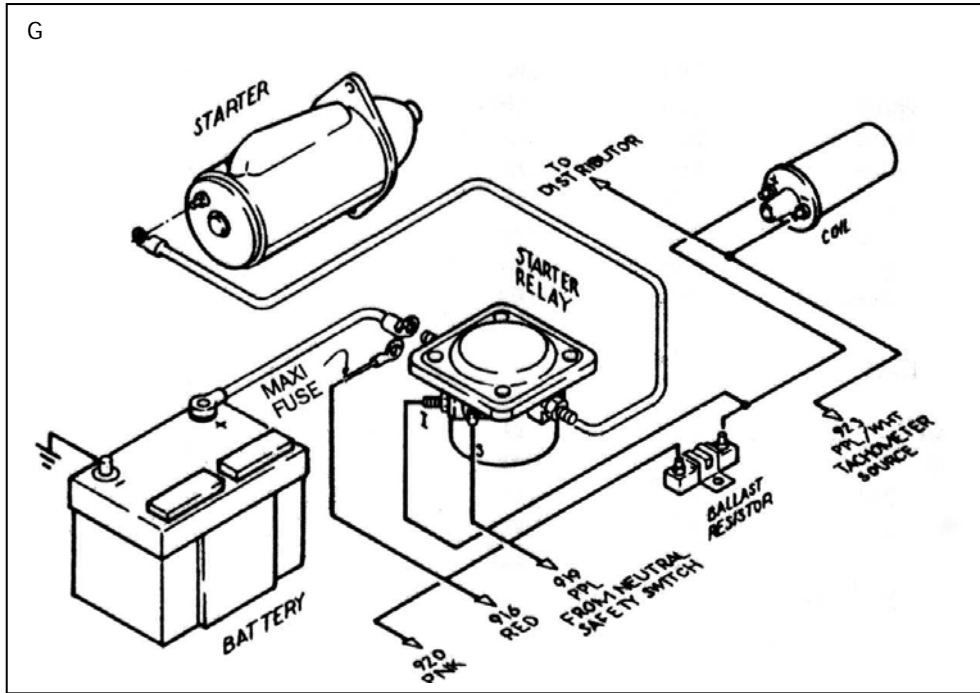

Figure 9-2 Ford Ignition (Start/Run) System
9.2 Ford Ignition (Start/Run) System. See Figure 9-2.
- 9.2.1 With crimping tool, attach the Maxi Fuse (**Figure 9-2**) onto end of ENGINE SECTION (single) 10 ga. wire #916 (red) AFTER having routed wire (with or without ammeter) from the Fuse Panel to the Starter Relay. This serves as a fuse to protect the entire harness. DO NOT OMIT IT!